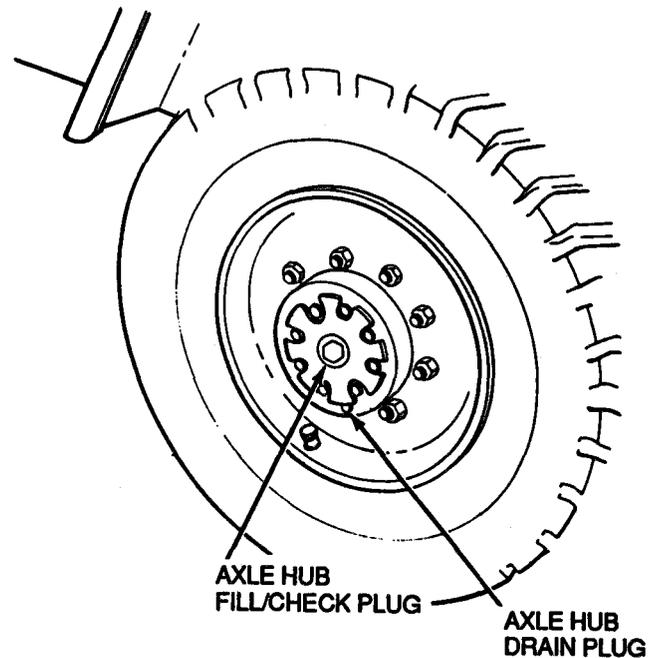

Figure 3-9
1. Position axle hub drain plug at "6 o'clock" (Figure 3-9).